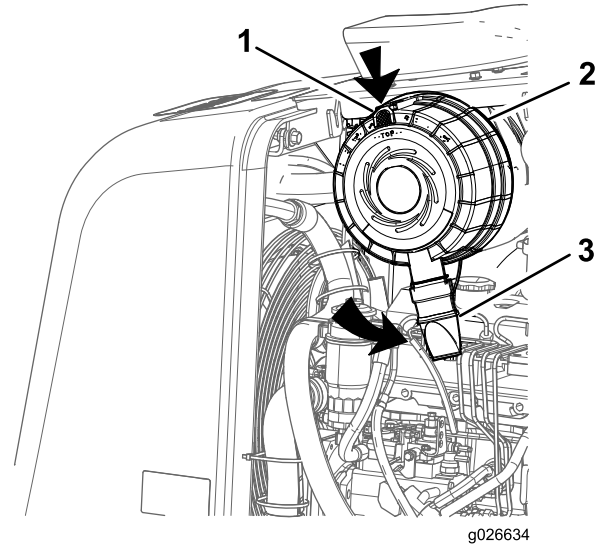

Figure 47
3. Rotate the cleaner cover counterclockwise so that the dust cap is at the 7 o'clock position (Figure 47).